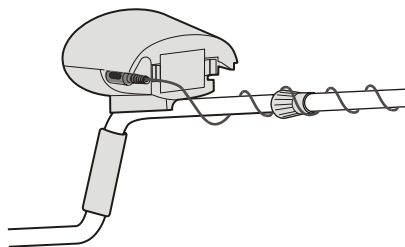

Fig4
3. Coil the cable of the search coil onto the tube pole, keep the elastic moderate. So that the cable won't sway, and then insert the cable plug into the lower right plug of the control box.(See fig.4)